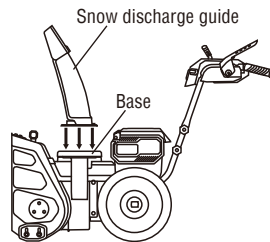

Fig. 3A
1. Put the snow discharge guide on the base and make sure the assembly holes in the bottom of the snow discharge guide aligns with the holes in the base. (Fig.3A)